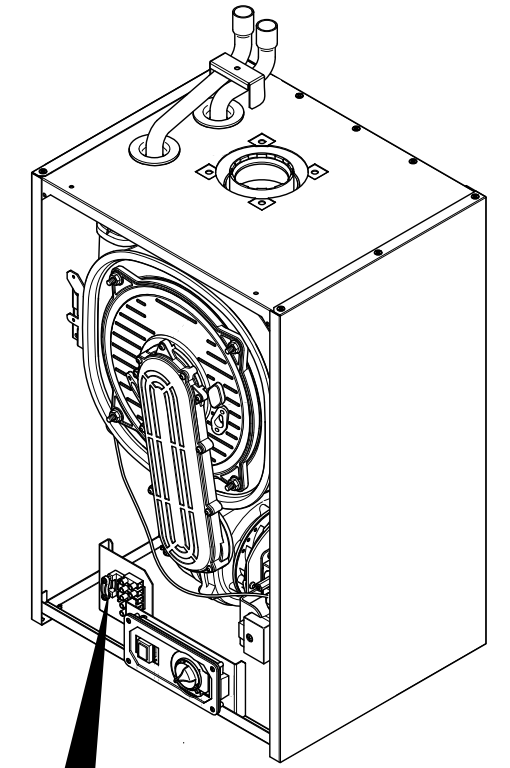

Fig. 31
2. Undo the terminal block cover securing screw and remove the cover (Fig. 31).
3. Slacken the unused cable clamp on the LH side of the boiler chassis (Fig. 31). Insert the external control wiring through the clamp and route it to the terminal block.